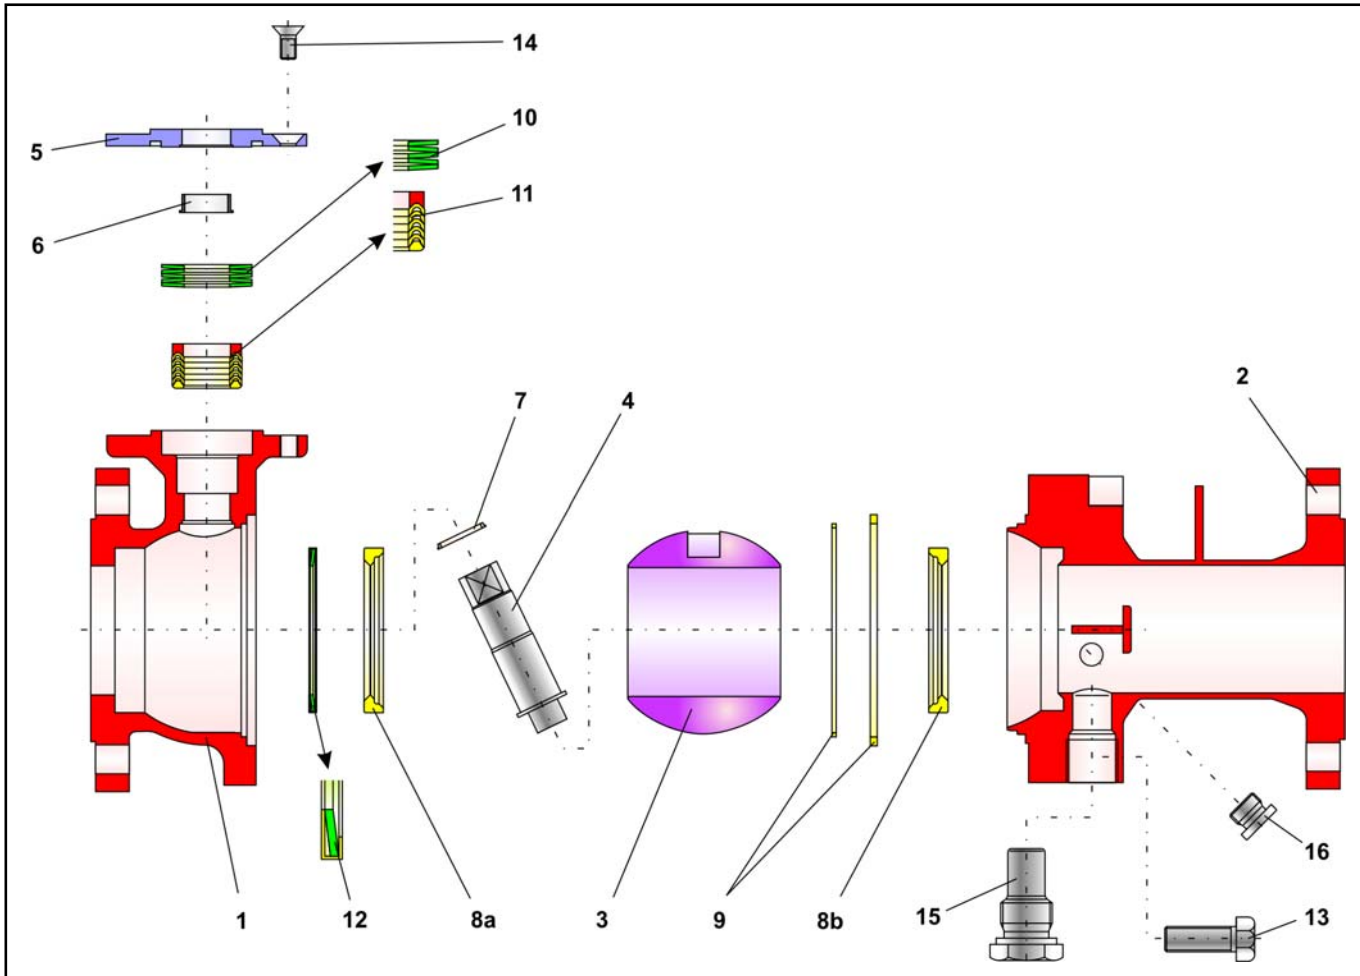

Fig 3 - Exploded drawing of the end station series 28z
Note: The position and arrangement of the individual parts shown in the exploded view diagram (Fig. 3) must be strictly adhered to when assembling the valve.
Insert the lined spring washer (12) into the main body (1). The assembly position for the spring washer can be taken from the drawing (Fig. 3).
Refer to the exploded view diagram (Fig. 3) for the exact positioning of the V-rings.
Also here, refer to the exploded view diagram (Fig. 3) for exact positioning of the spring washers.